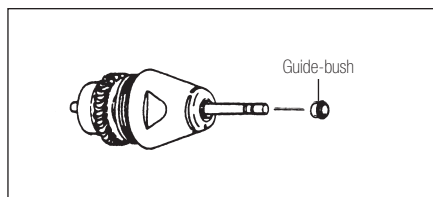

Fig.14
- 2) Set the longer one of the guides of the guide bush on the end of the rotor shaft first along the test bur. (Fig.14)